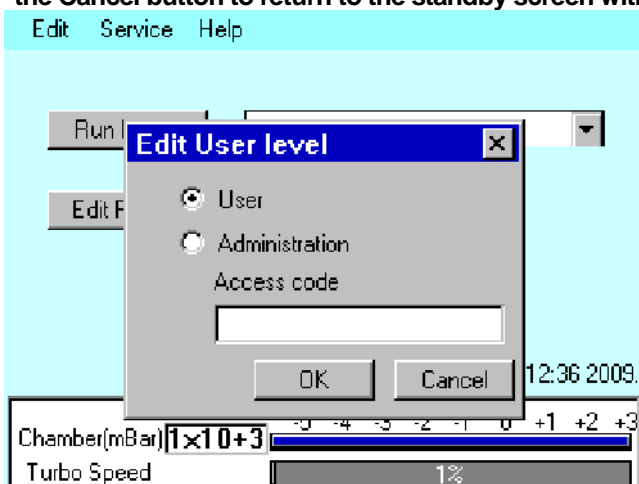

Figure 6-7. Changing the user level
1. Select Edit | User | Level from the menu bar. The *Edit User Level* dialog box is displayed (see Figure 6-7).